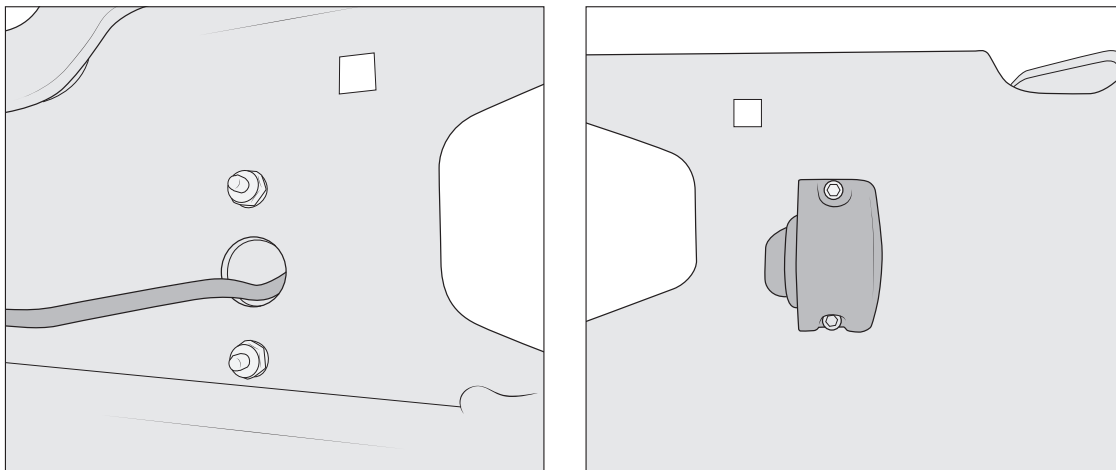

Figure 18: Backside (left) Frontside (right)
1. Install the included LED license plate light onto Center Section using supplied #8 Allen head bolts, washers, and nuts (fig. 18).